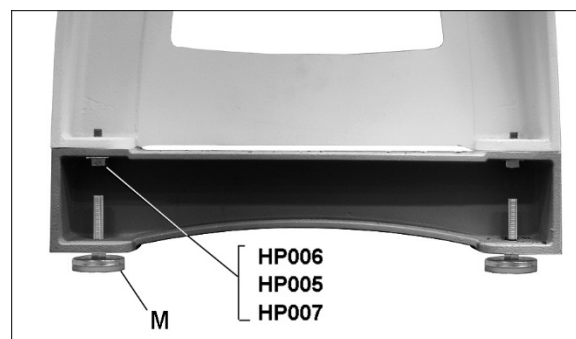

Figure 5-2: riser blocks and feet
See Figures 5-2 and 5-3.
2. Install adjustable feet into bottom of legs or riser blocks (Figure 5-2) and tighten hex nut against leg casting. The feet can be adjusted later.
6. Rotate levelers (Figure 5-2) as needed to establish level for the lathe. Tighten hex nut on each leveler against leg casting.